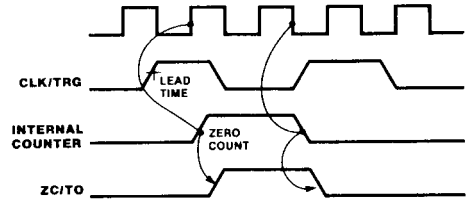

Figure 12. Counter Mode Timing
**Counter Operation.** In the counter mode, the CLK/TRG pulse input decrements the downcounter. The trigger is asynchronous, but the count is synchronized with CLK. For the decrement to occur on the next rising edge of CLK, the trigger edge must precede CLK by a minimum lead time as shown in Figure 12. If the lead time is less than one clock cycle, the count is delayed by one clock cycle. The trigger pulse must have a minimum width, and the trigger period must be at least twice the clock period.